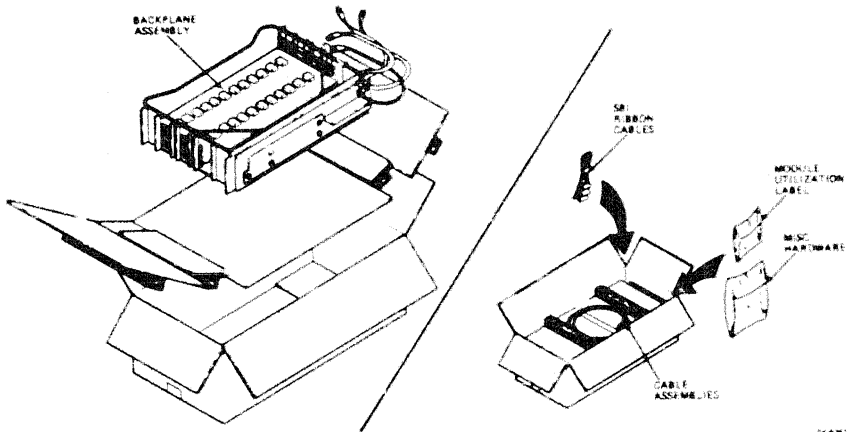

Figure 2-2 CI780 Backplane Container Arrangement
5. Open the two containers and check their contents against the packing list (Figure 2-2).